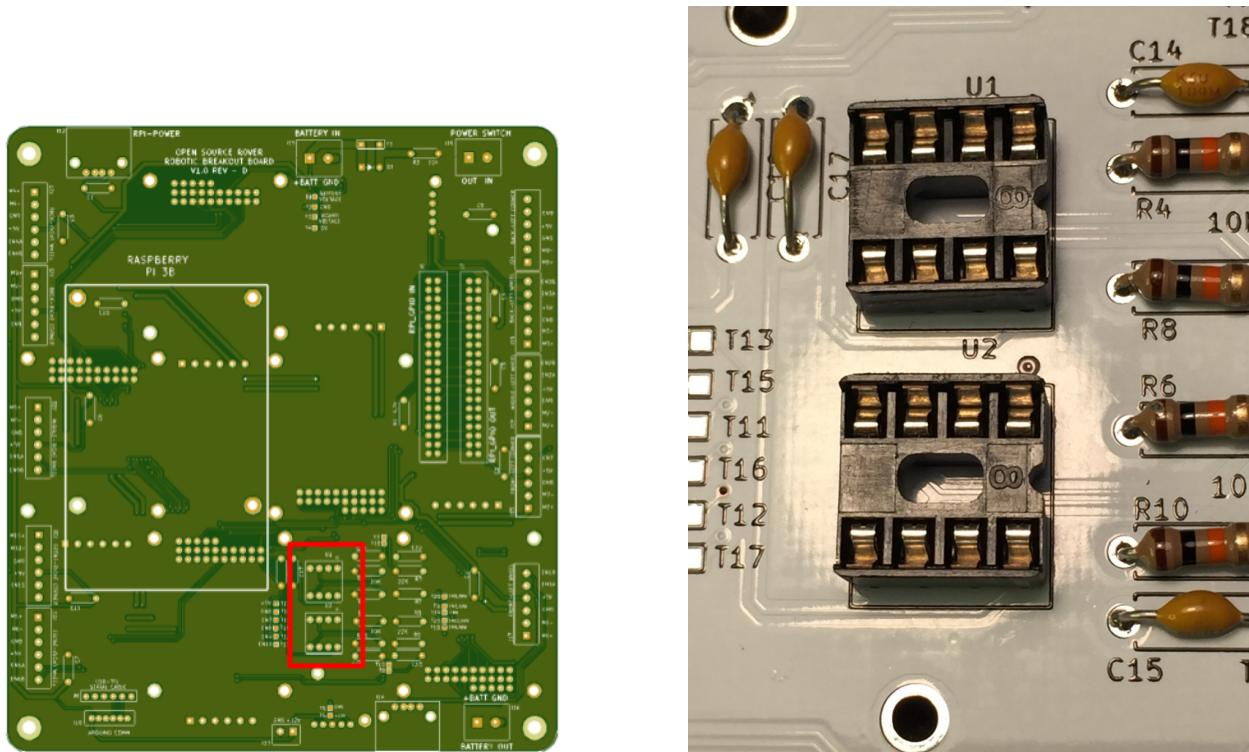

Figure 7: Assembly Step 7
1. On the **top** of the board, solder the 40-position header connectors **E13**. The clocking notch on the headers should face **OUTWARD** as shown in Figure 7. The schematic reference designators are **J6** and **J7**.